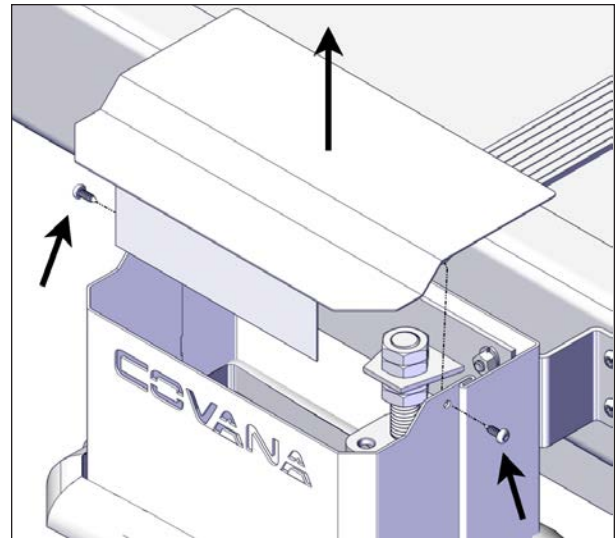

FIGURE 110: TOP PLATE REMOVAL
2. Remove the #2 Robertson screws (2) on the top plate of each post, see Figure 110. Keep the top plates and the screws in a safe location.